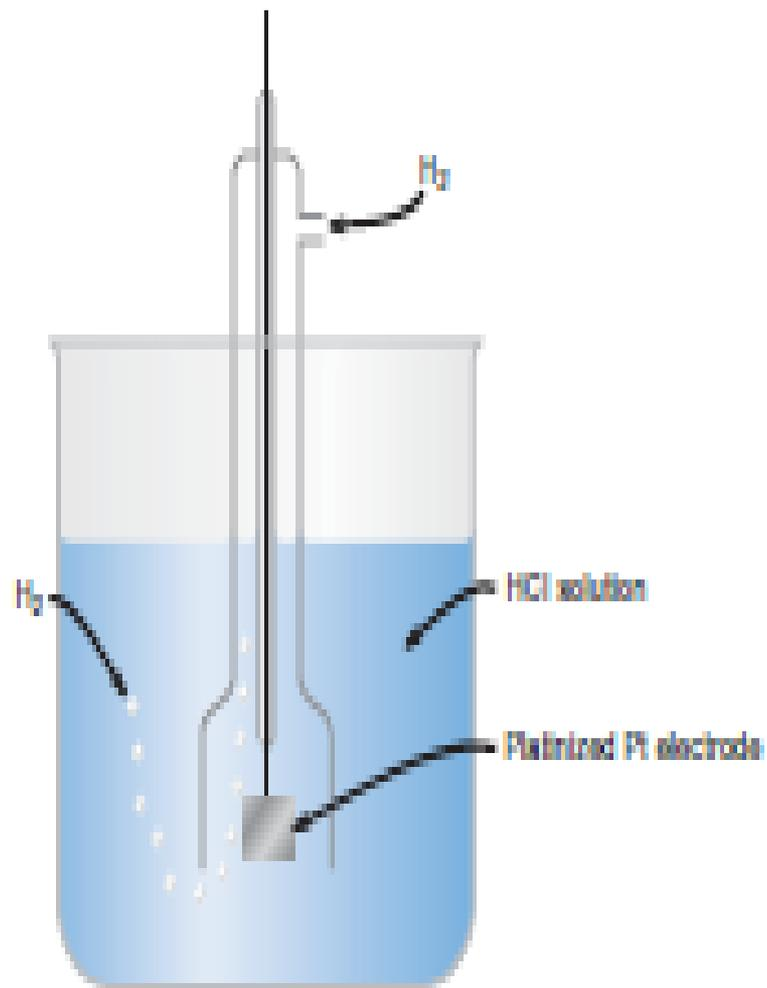

Fig. 13.1. Hydrogen electrode.
- 1- The construction of the hydrogen electrode is shown in Figure 13.1.